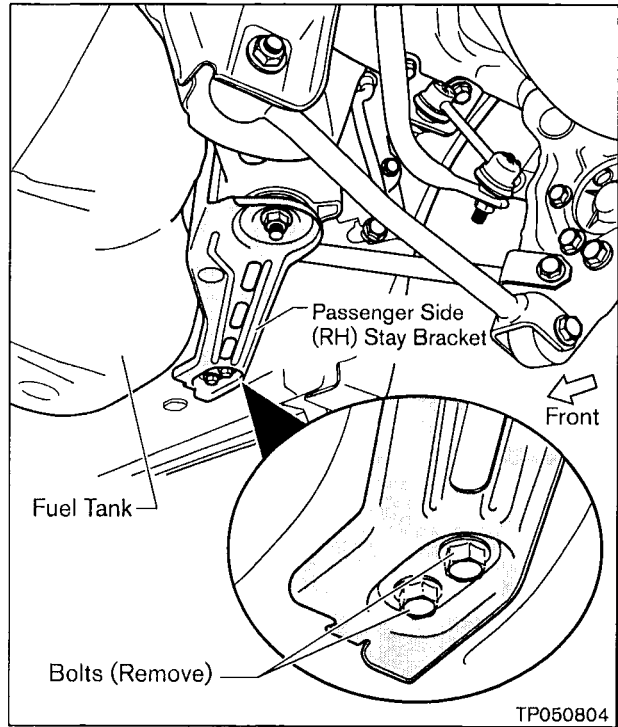

Figure A15
8. Remove the two front bolts from the right and left “stay” brackets (see Figure A15).